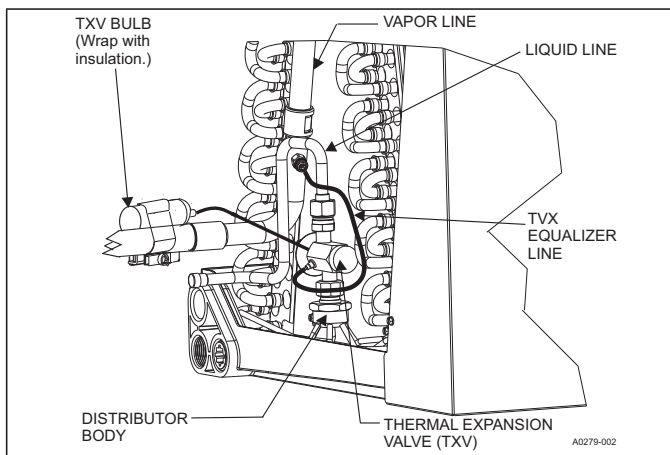

FIGURE 13: TXV Bulb and Equalizer line Installations
6. Install the TXV equalizer line onto the vapor line by hand tightening the 1/4" SAE coupling nut to the equalizer fitting, and apply an additional 1/3 turn to seal. See Figure 13.
8. Install the TXV bulb to the vapor line near the cabinet, using the bulb clamp(s) furnished with the TXV assembly. Ensure the bulb is making maximum contact. See Figures 13 & 14, and accomplish the following: